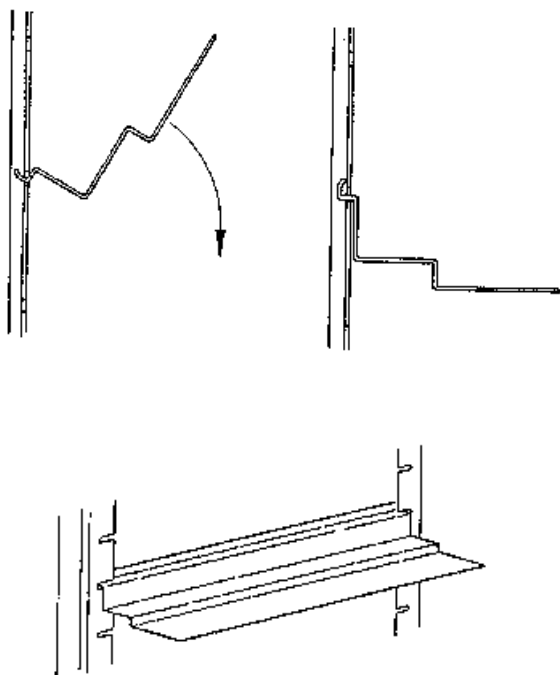

Figure 2-1
7. Install screen rack angles onto angle supports by tilting the angles up and sliding the flange into the notches of the supports. See Figure 2-1.